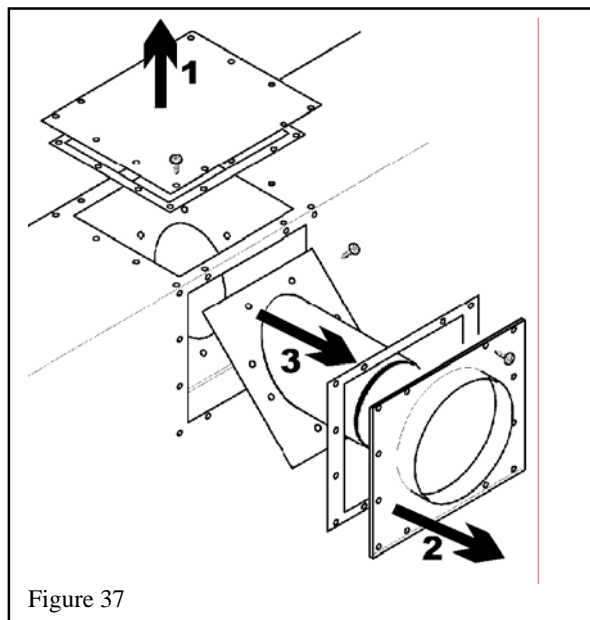

Figure 37
1. Remove the top plate and seal by unscrewing 12 screws. (See figure 37).
2. Remove the rear outer vent collar and seal by unscrewing 12 screws (See figure 37).
3. Remove the rear inner vent collar and seal by unscrewing 8 screws. (See figure 37).